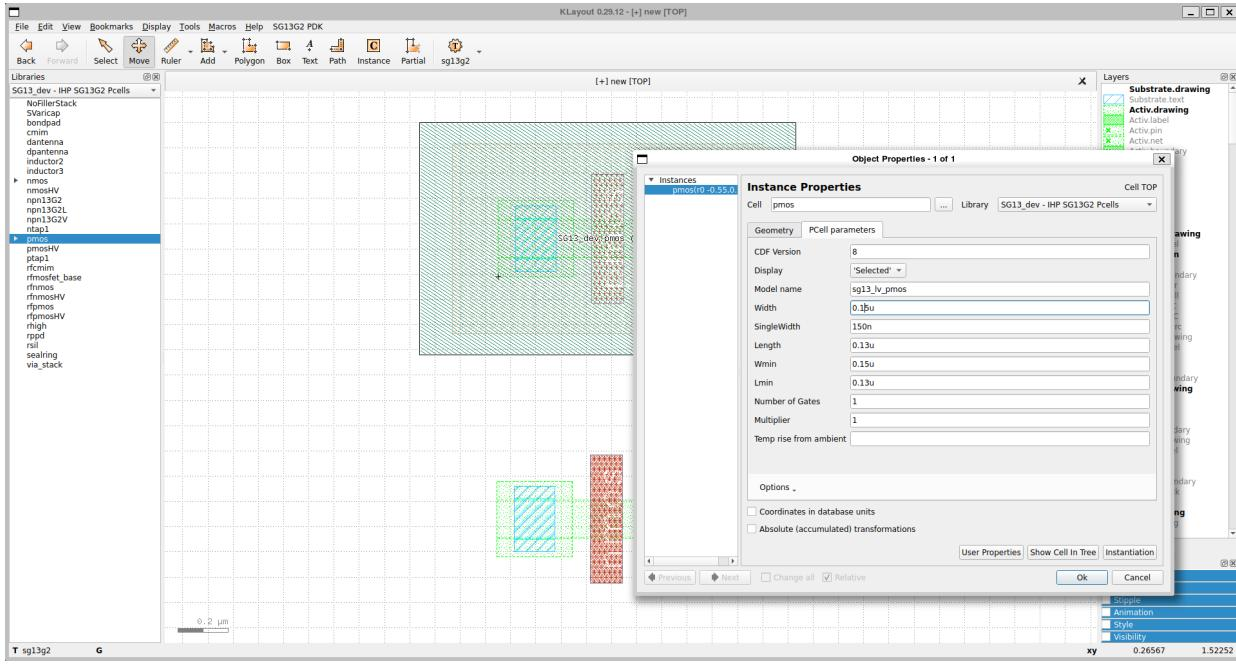

Figure 18: Parameters Window
7. Double-click on the PCell to open its parameter editor. Set parameters like the width and length values to match those used in your **Xschem schematic**, then click **OK** to apply the changes refer Figure 18